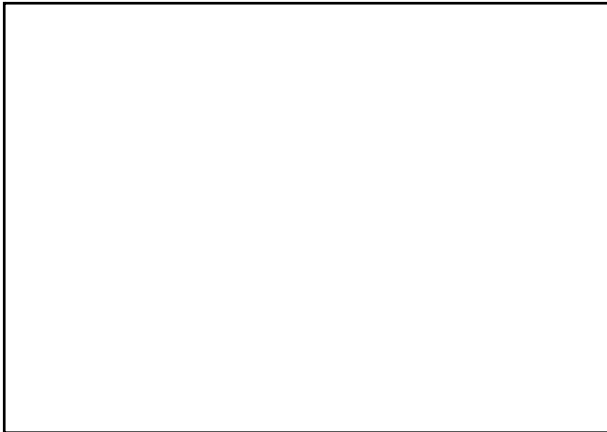

Fig. 7
- Sufficient refrigerant (Fig. 7) in the system?
When the engine is running and the system is switched on, the refrigerant must be bubble-free in the inspection window on the underside of the refrigerant tank (arrow, Fig. 7). If bubbles are seen in the inspection window, there is insufficient refrigerant in the system. The system must be checked for leakages by an authorized air-conditioning systems company and then refilled.